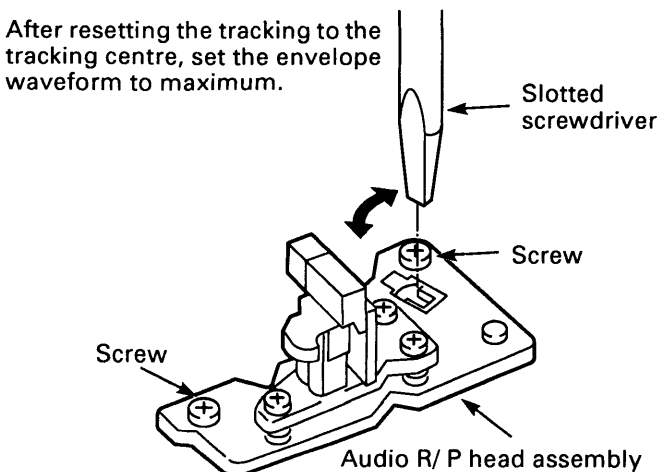

Fig.4-3-6
(2) Horizontal position adjustment (See Fig.4-3-6)